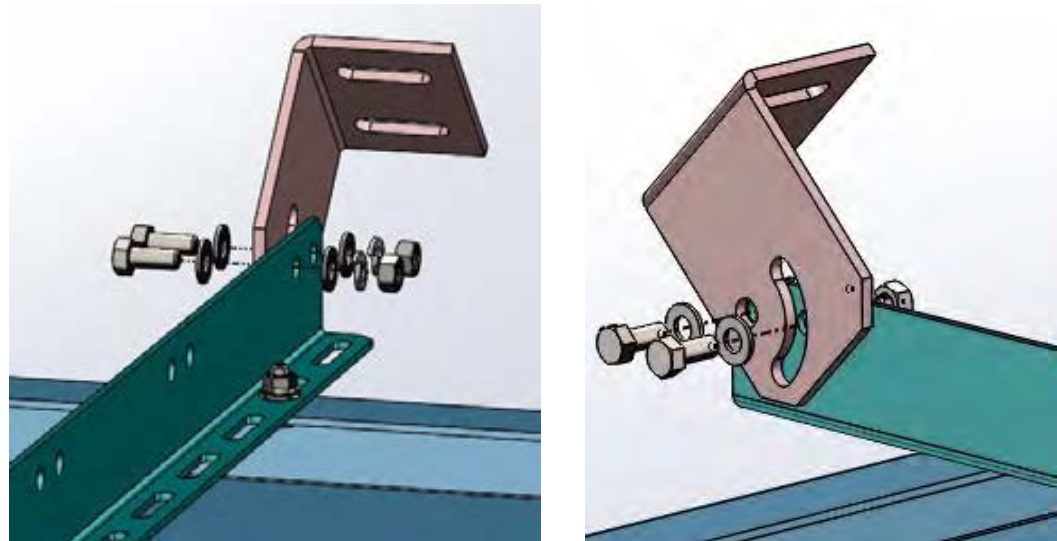

Figure 5. Exploded view of left clip attached to the left mounting rail
5. Attach the clips to the rails. In each of the mounting holes, use a 5/16 - 18 x 3/4" bolt and flat washer on one side and a flat washer, lock washer and nut on the other as shown in **Figures 5 & 6**. Tighten the bolts to hold in place securely.